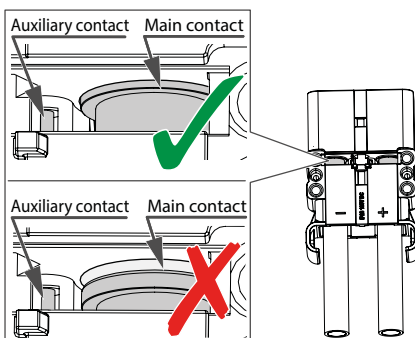

Fig. 21:
1. Ensure that the main contacts and the auxiliary contacts (where used) are correctly positioned in the guides in the housing (*Fig. 21*).